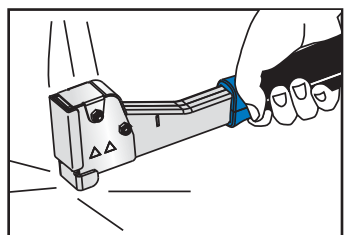

Figure 6
- Take the stapler by the handle and hammer the striker end into the material to be stapled. This will drive one staple into the material. The striker should be pointed downward at all times. See figure 6.